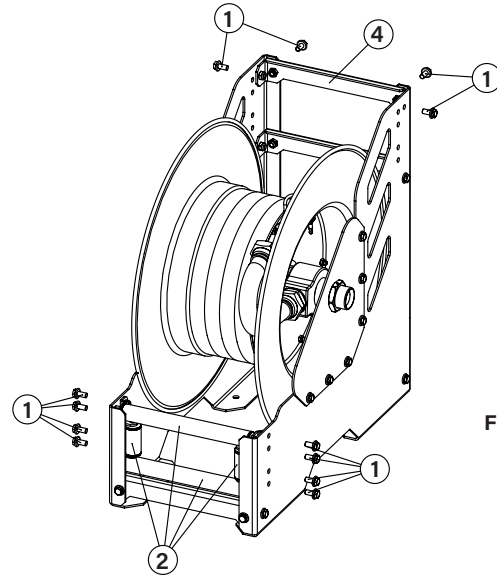

Fig. 1
3. Unscrew the bolts (1), take out the hose outlet rollers (2), and disassemble the crosspiece (4) (Fig. 1).